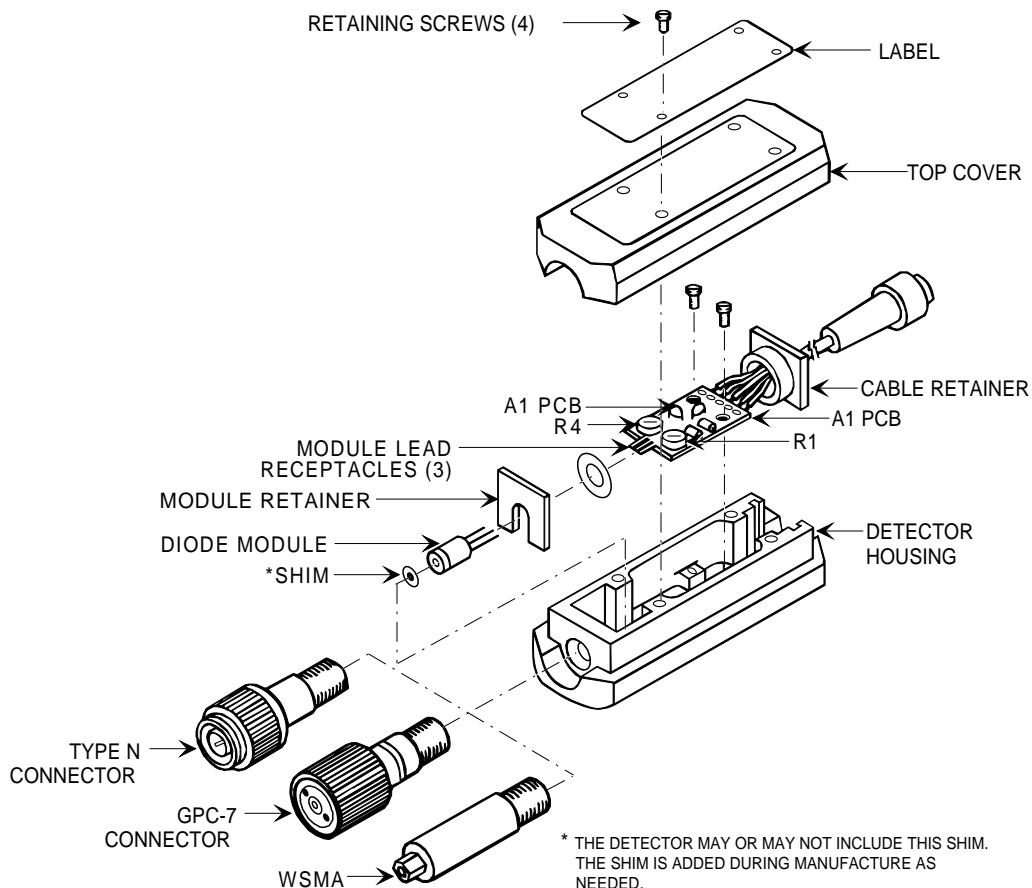

Figure A-4. Series 560-7XXX RF Detectors, Exploded View
- Step 2** Unfasten the two retaining screws that hold down the rf detector PCB subassembly (Figure A-4).
- Step 12** Orient detector housing normally (Figure A-4). Insert replacement diode module into rear of connector body so that center lead is on top.
- Step 15** Orient PCB subassembly normally as shown in Figure A-4 and insert into detector housing so that leads from replacement diode module mate with connectors on PCB subassembly.